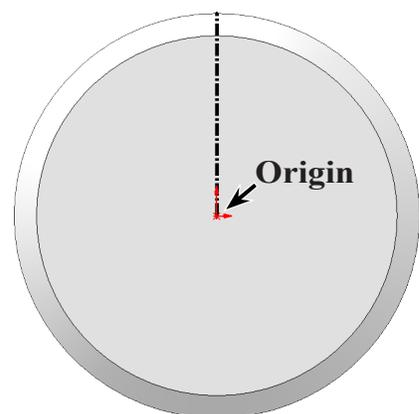

Fig. 10
Step 4. Sketch a **vertical centerline from the Origin**  **up to outer edge**, **Fig. 10**.